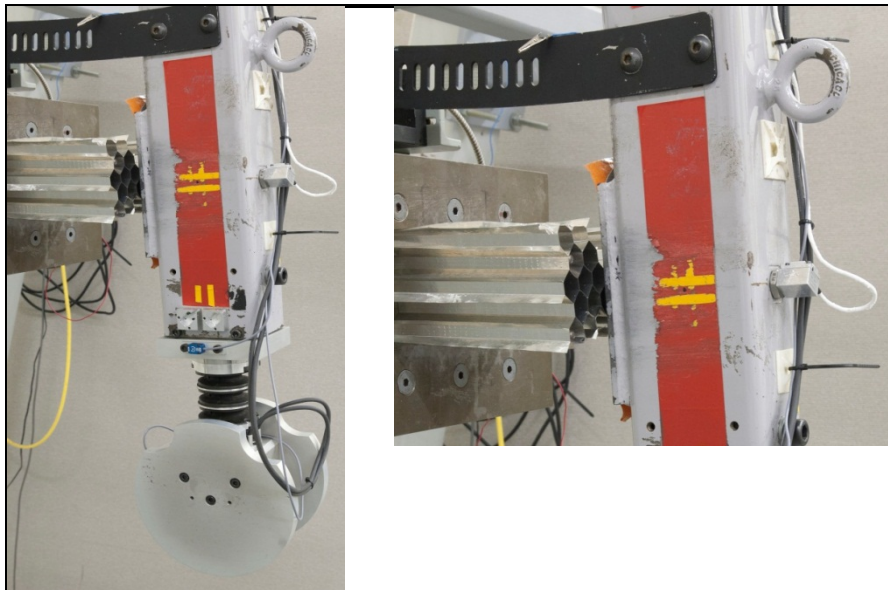

Figure 24. Install hexcell to pendulum
- Install the proper size hexcell to meet the pulse requirements specified in Table 1 (Figure 24).